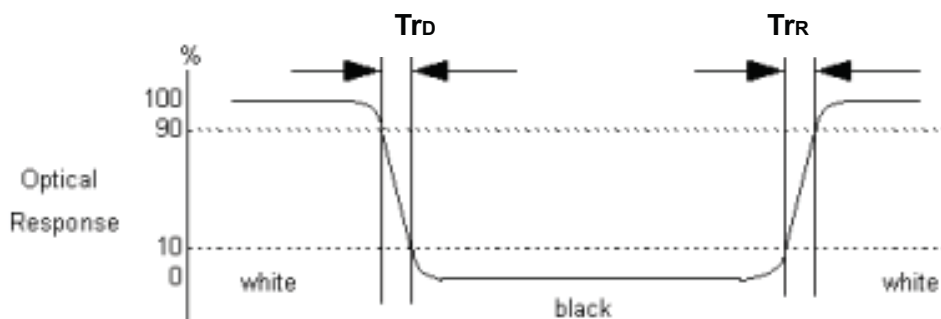

Fig.4-3 Response time
4. Response time is the time required for the display to transition from white(L255) to black(L0) (Decay Time,  $T_D = T_f$ ) and from black(L0) to white(L255) (Rise Time,  $T_R = T_r$ ). For additional information see FIG4-3.